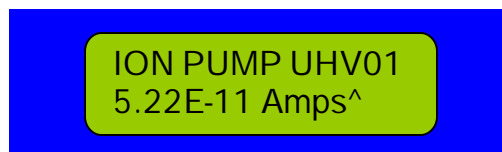

Figure 2
- A startup message shows the software build date and the software trip limit. After the startup message, the display of figure 2 is shown.
As shown in Figure 2, the normal display shows the unit address on the top line. The factory default addresses are UHV01 and UHV02. The bottom line displays the Ion pump current in amps. Display is shown in scientific notation. When the RS-232 communications are set to “Broadcast” mode, a [^] symbol will flash on the LCD readout to the right of the current display.